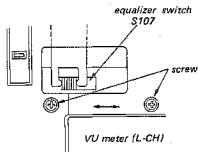

Fig. 3-21. Equalizer switch (S107) position adjustment
1. Loosen the two screws as shown in Fig. 3-21. Set the tape speed switch to the 9.5 cm/s (center) position.